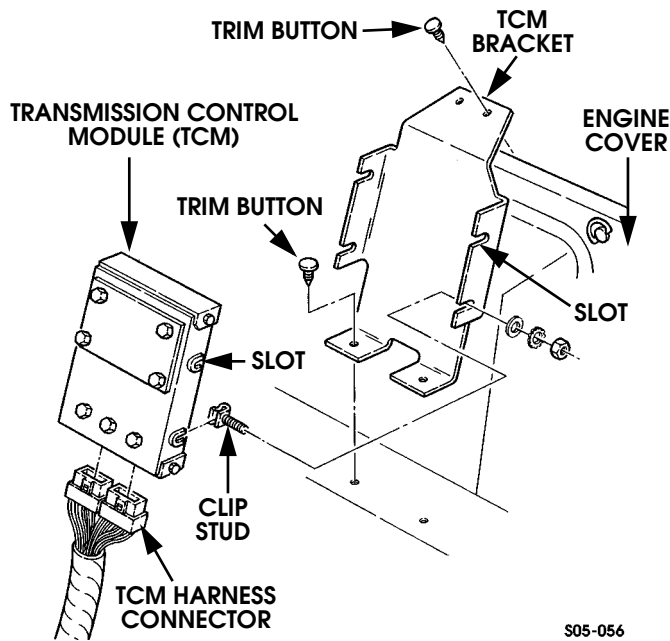

Figure 5-60: TCM and Bracket Attachment
3. Disconnect harness wires from TCM (Figure 5-60).
6. Install clip studs and nuts on TCM (Figure 5-60).